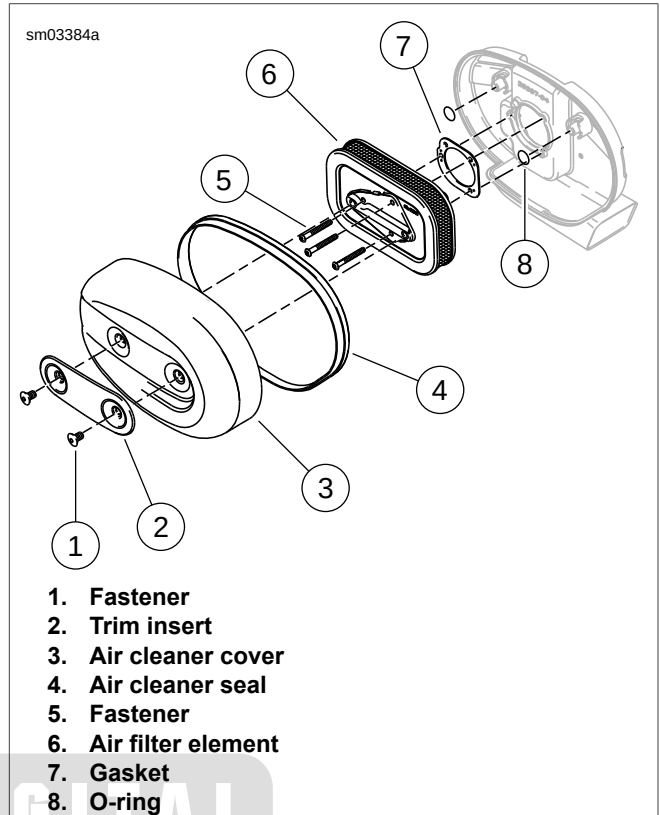

Figure 1-9. Air Filter Element: XL Models except XL 1200V
1. See Figure 1-9. Remove the two fasteners (1) and the trim insert (2) from the air cleaner cover (3).
2. Remove the air cleaner cover from the backplate. Remove air cleaner seal (4) from the cover.
3. Remove three fasteners (5). Remove the air filter (6) and the gasket (7) from the backplate. Discard the gasket.
1. See Figure 1-9. Apply a thin coat of engine oil or light grease to the O-rings (8).
2. Position a **new** gasket (7) on the air cleaner. Line up the gasket holes with the backplate holes.